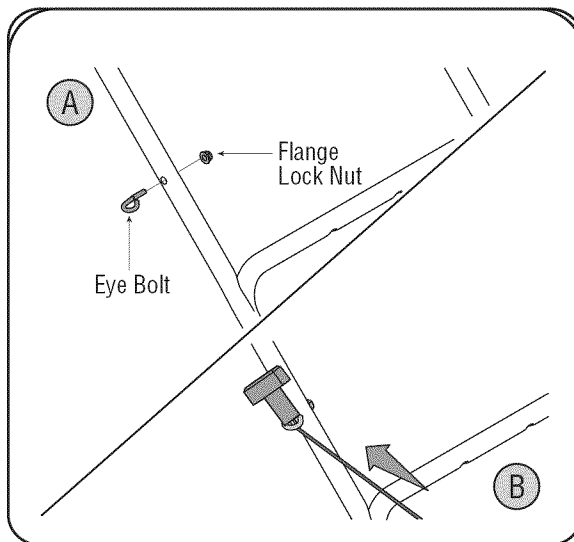

Figure 9
- Place the rope guide around the starter handle, so the opening in the rope guide is toward the front of the mower. Insert the rope guide into the right side of the handle, and secure with hex locknut. See Figure 9.